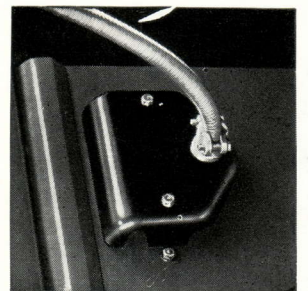
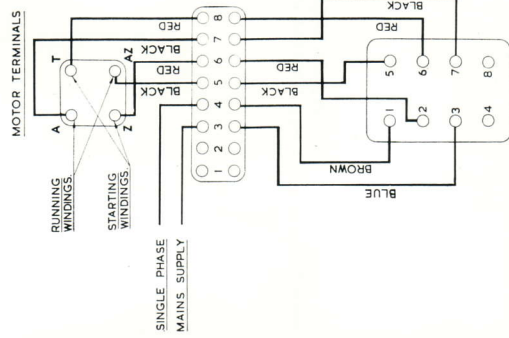

Fig. 22
Fig. 26. Single Phase.
MYFORD cabinet stands are fitted with a reversing switch which is already connected to a terminal block at the back of the stand. See Figs. 22 and 23. The Lathe motor and mains supply should be connected to the appropriate terminals as indicated in Figs. 26 and 27. NOTE THE EARTHING TERMINAL TO THE LEFT OF THE TERMINAL BLOCK.
The connections for drum type reversing switches are shown in Figs. 26 and 27. When single phase motors are supplied with Bench Lathes, but without switchgear, the terminals are 'bridged' at the MYFORD works for plain 'ON-OFF' starting. These bridge pieces must be removed before a reversing switch can be used. When a single phase motor is to be connected to a reversing switch **always check that there are no links** connecting the starting to the running windings.
N.B. Fig. 26 shows terminal markings for Crompton motors. The table above shows alternative terminal markings—equally applicable when connecting other motors to drum type switches.